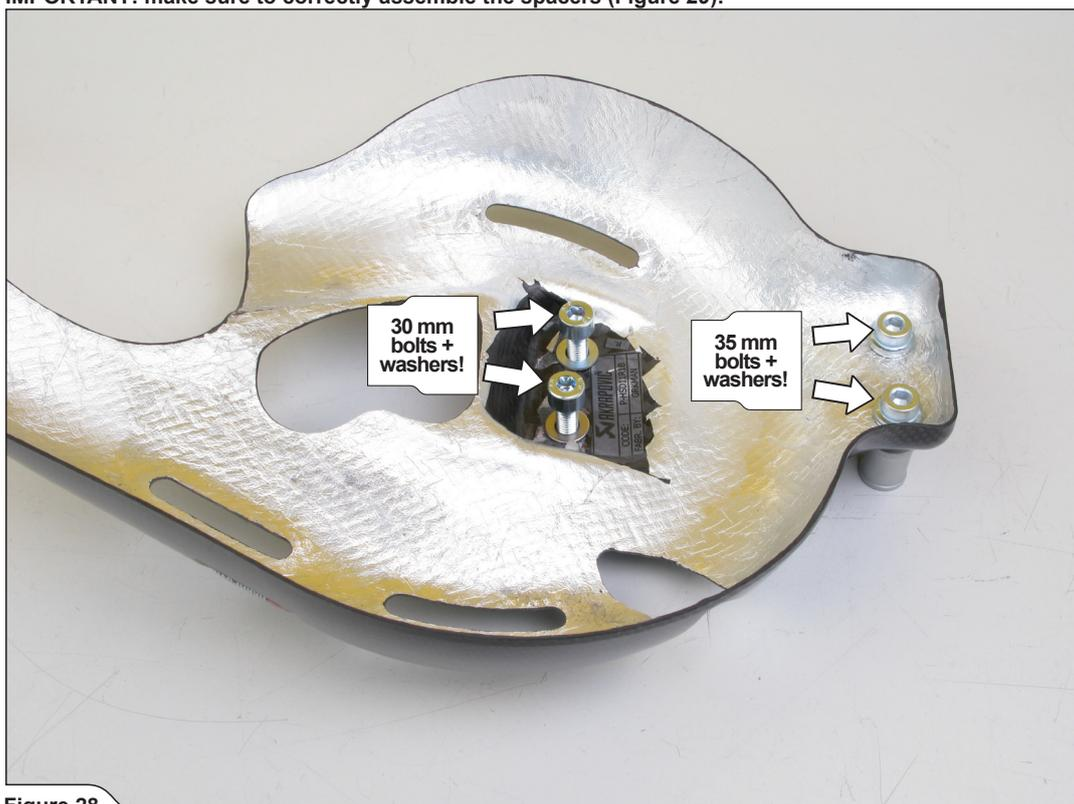

Figure 28
6. For use without passengers foot rests only: install the heat shield onto the sub-frame using spacers, bolts and washers from Akrapovič installation kit (Figure 28, 29, 30).